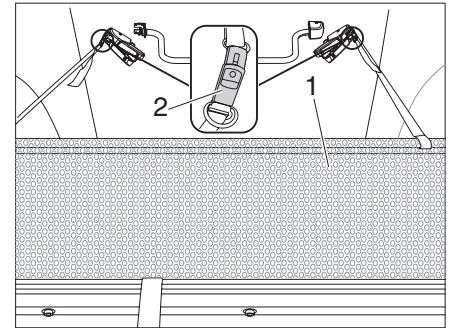

Fig. 37 Safety guard
- ▶ Pull the safety guard (Fig. 37,1) out from under the mattress.
- ▶ Secure the safety guard to the pop-up roof with the strap buckle (Fig. 37,2).
- ▶ Releasing the strap buckle (Fig. 37,2).
- ▶ Stow the safety guard (Fig. 37,1) under the mattress.